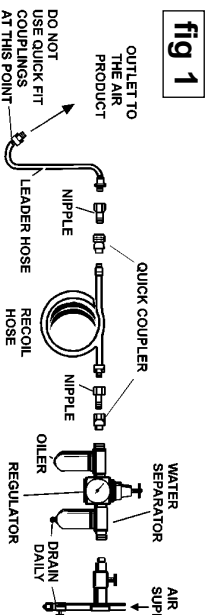

fig 1
- 3.1.5. Clean air inlet filter weekly. Recommended hook-up procedure is shown in fig 1.
Vibration may cause failure if a quick change coupling is connected directly to screwdriver. To overcome this, connect a leader hose to the screwdriver. A quick change coupling may then be used to connect the leader hose to the air line recoil hose. See fig 1 & 2.